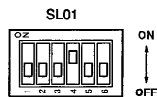

Figure 4-7
- To start tuning mode, from DIP switch SL01 in figure 4-7, switch on only No. 4. Switch off all others.